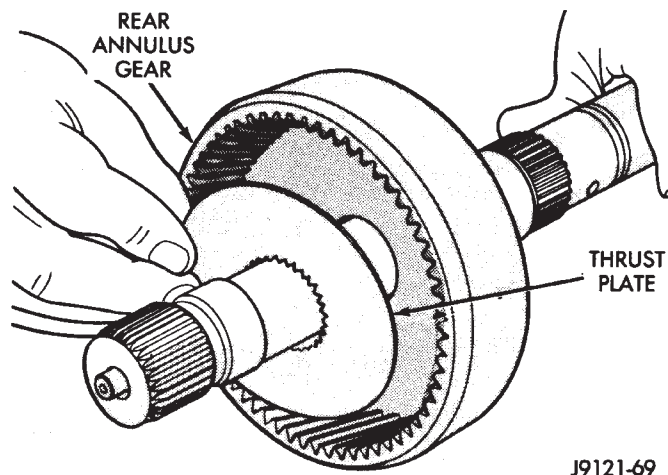

Fig. 181 Installing Rear Annulus Thrust Plate
(4) Install thrust plate in annulus gear (Fig. 181). Be sure plate is seated on shaft splines and against gear.